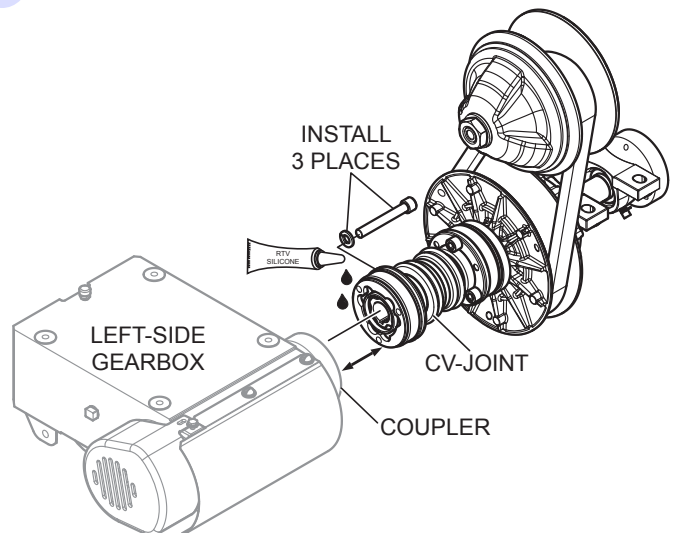

Figure 39. CV-Joint Installation
1. Apply a thin coat of RTV silicone to the mating surfaces of the CV-joint (Figure 39) and left-side gearbox coupler.
2. Using a 1/4" Allen wrench, install the three bolts and lock washers that secure the CV-joint (Figure 39) to the left-side gearbox.